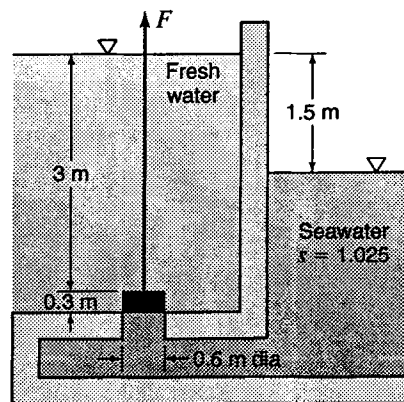

Figure X3.9.2
3.9.2 For the conditions shown in Figure X3.9.2, find the force F required to lift the concrete-block gate if the concrete weighs 23.6 kN/m³. Neglect friction.